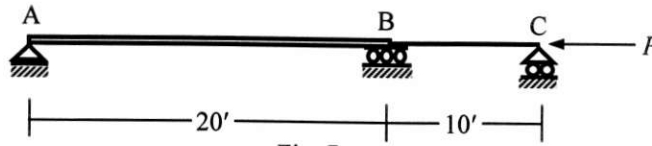

Fig. 7
- Calculate the value of P needed to cause buckling of the beam ABC shown in Fig. 7, considering flexural deformations only with geometric nonlinearity [Given: $EI_{AB} = 2EI_{BC} = 40 \times 10^3 \text{ k-ft}^2$].